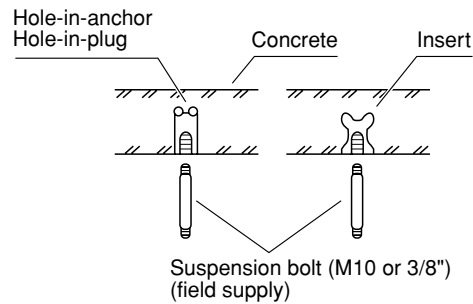

Fig. 3-20
(3) Depending on the ceiling type:
- Insert suspension bolts as shown in Fig. 3-20. or